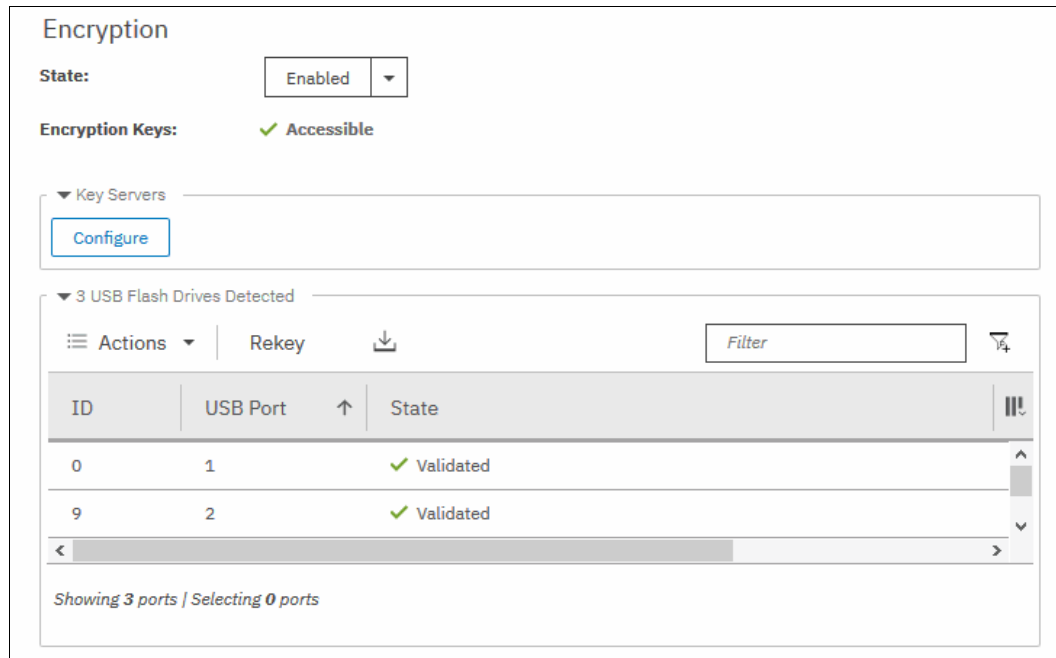

Figure 12-56 IBM FlashSystem encryption that is configured with USB flash drives
1. Migrate from key server encryption to USB flash drives encryption, as described in 12.7.2, “Changing from an encryption key server to a USB flash drive provider” on page 778. After this step, only USB flash drives encryption is configured, as shown in Figure 12-56.